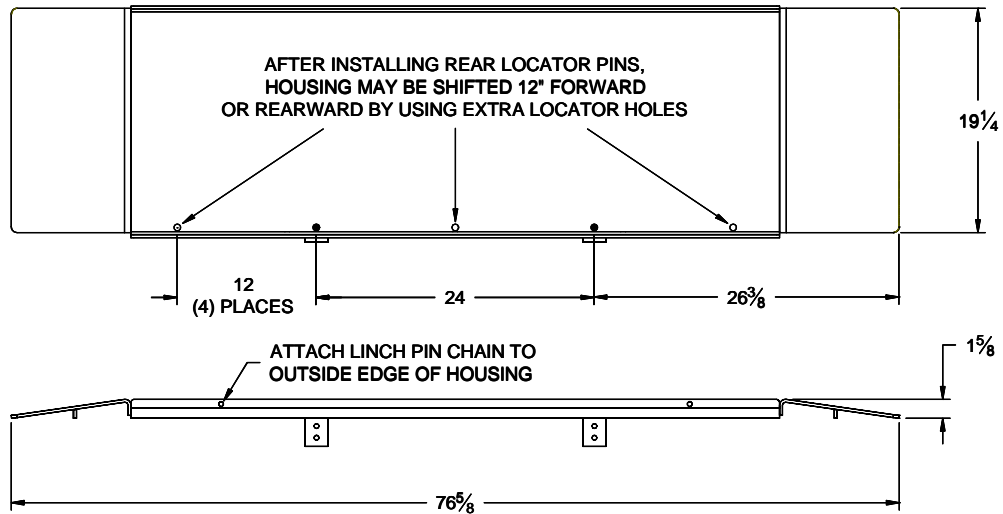

Fig 3 – Rear Slip Plate Housing Locations
- 8) Measure 24" from the front edge of the rear locator to the front edge of the second rear locator and repeat the previous procedure Position Rear Slip Plate Housing on locator pins, **Fig 3**.
- 9) Attach Linch Pin chain strap to Slip Plate Housing, **Fig 3**.